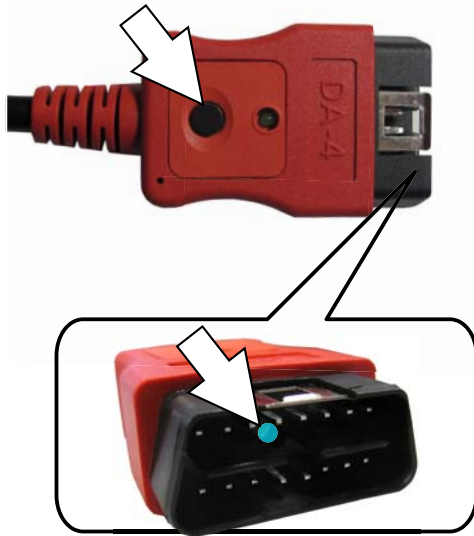

Figure 4-3 DA-4 data cable LED flashlight
*The supplied 9 ft. (2.7 m) DA-4 data cable, includes an LED flashlight on the vehicle DLC connector end (Figure 4-3). The LED flashlight is powered by the diagnostic tool battery.*
3. If needed, press the LED flashlight button switch on the end of the data cable to turn the LED flashlight on (*Figure 4-3*), and locate the DLC.